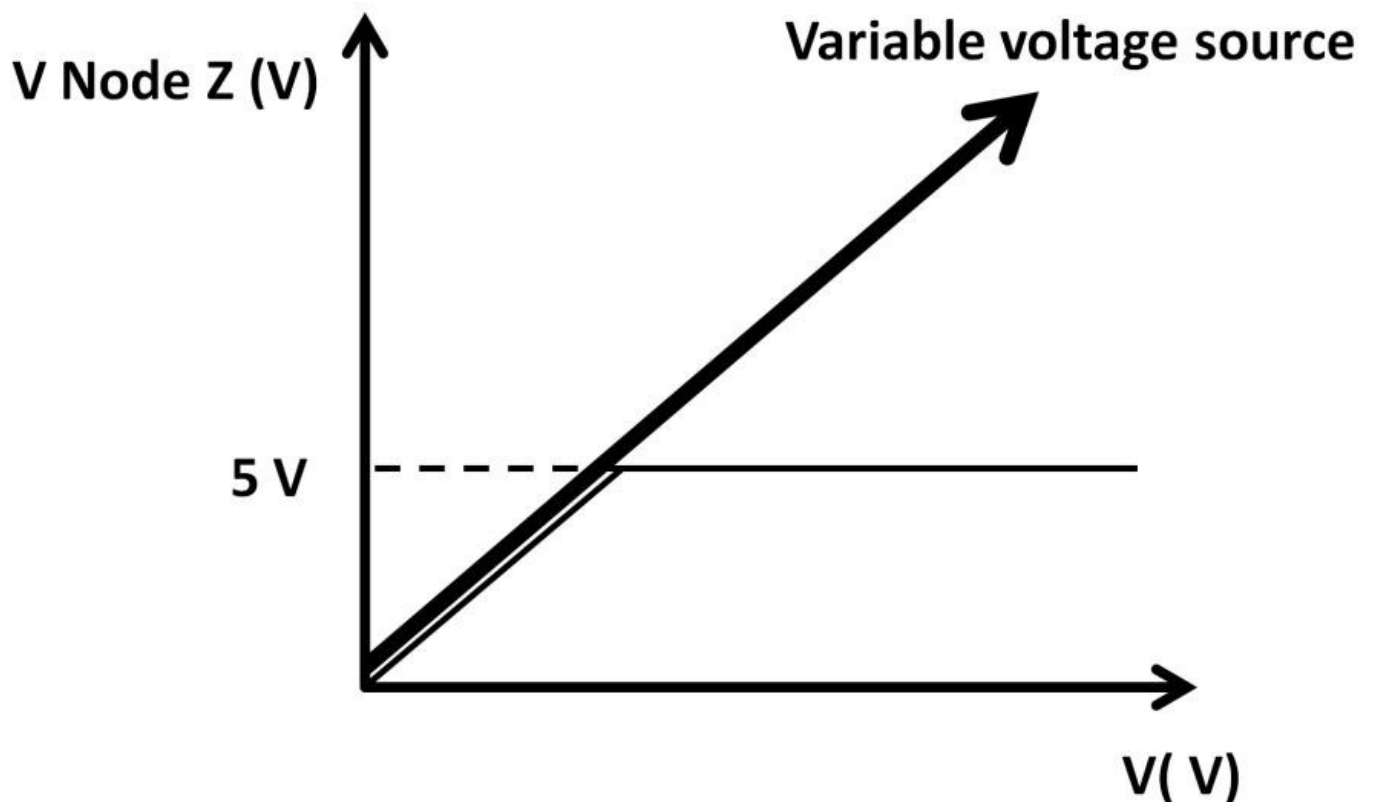

Figure 2.11
6) A diode contains finite resistance when it's forward-biased. Additionally, there are resistances in a real diode due to physical leads. Figure 2.10 shows a simplified physical diode representation with leads. These leads present small finite resistance that may be significant in designs that are sensitive to noise. Surface-mount diodes are available in small footprints. Figure 2.11 shows surface-mount diodes from SEMTEX. Recall from chapter 1, DC, figure 1.21, that any resistor with current flowing through it generates heat and noise due to random ion bombardments. Noise in particular should be minimized at all costs, especially in highly accurate circuits.